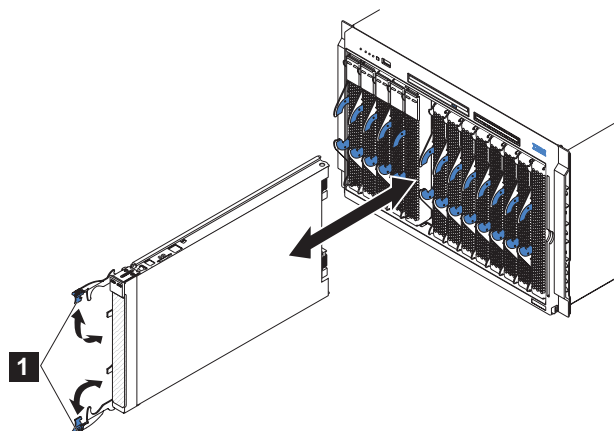

Figure 7. Removing the blade server from the BladeCenter unit
5. Open the two release handles, as shown by **1** in Figure 7. The blade server moves out of the bay approximately 0.6 cm (0.25 inch).